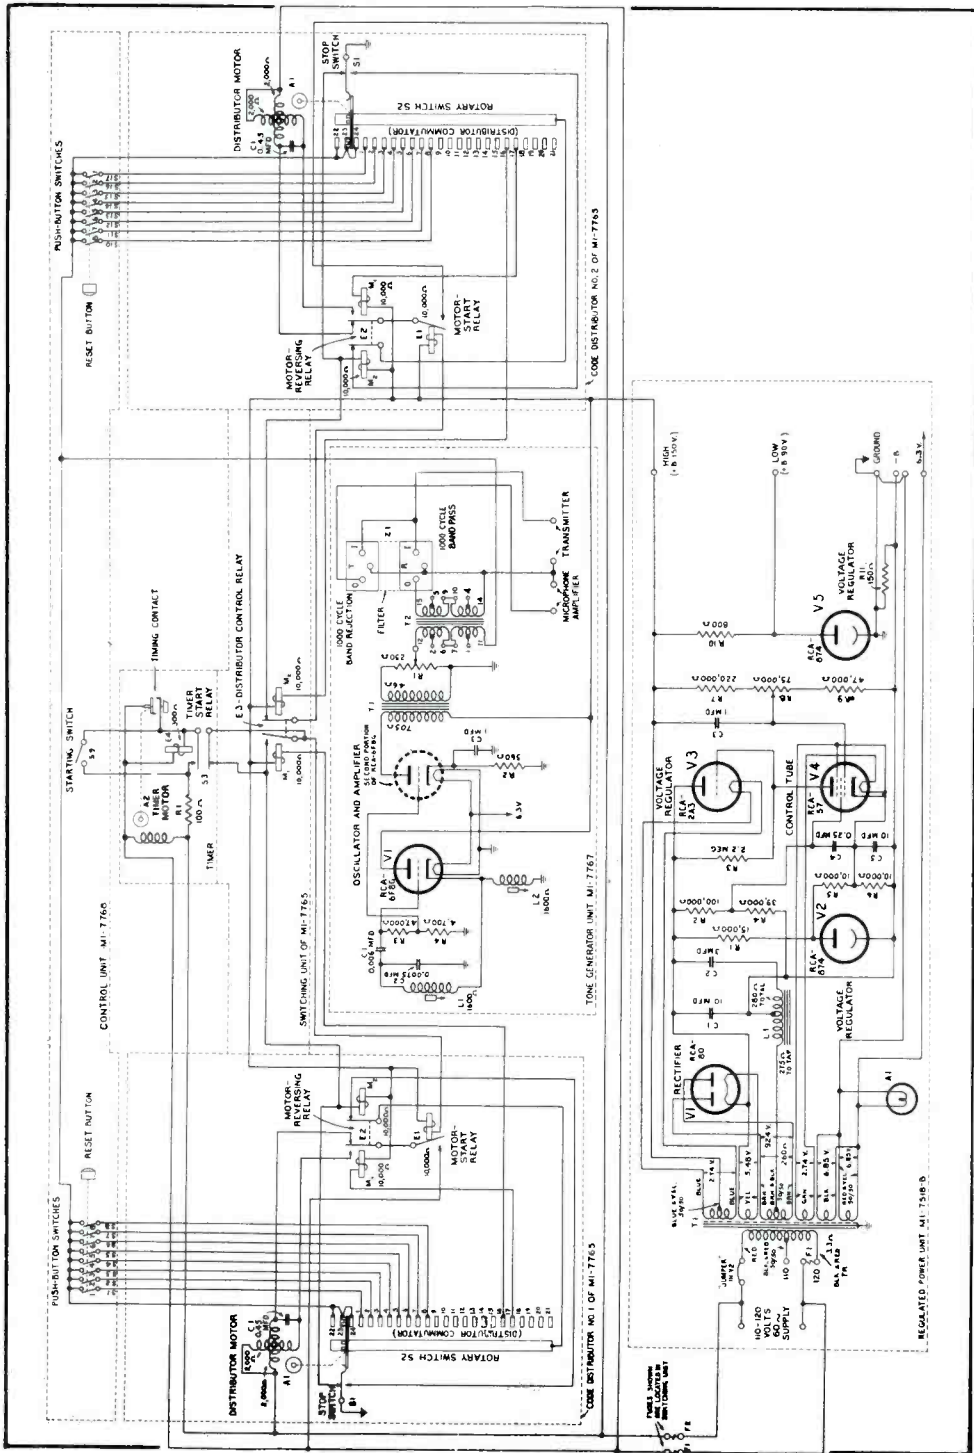

FIG. 3. TRANSMITTER CODING CIRCUIT. DOTTED LINES INDICATE SEPARATE UNITS
The complete circuit arrangement of the power unit is schematically shown in Fig. 3.
Referring to Fig. 3, the voltage-regulating feature consists of an arrangement of four tubes V2, V3, V4, V5 which function as interdependent stages of the system. The general purpose of each of these tubes is as follows:
Assume that the voltage at a particular instant is reduced across the  $-B$  and  $+B$  taps shown in Fig. 3, either because of high load current or low AC line voltage. This would cause a reduced voltage from ground to the arm of the voltage-adjusting potentiometer R8, the arm being connected to the grid of tube V4. Inasmuch as tube V2 maintains a
As this action occurs very rapidly, the effect is a constant voltage output at all times. While only a portion of the DC output is applied to the grid of tube V4, the full ripple voltage is applied through capacitor C3. The regulating action of the circuit also functions on this ripple voltage to cause a further hum reduction beyond that of the filter circuits in the power unit shown in Fig. 3. This results in a DC output almost entirely free from ripple voltage.
**CIRCUIT OPERATION:** Referring to Fig. 3, let it be assumed that the power is on, and that the power unit is energized. With the power on, the timer motor A2 is in operation. Also, all the relays of the equipment are in their normal positions except the motor-start relays E1 of both code distributors which, as shown, are in their respective operating positions. With the power unit energized, the heater of the tube V1 of the tone generator unit is on. This places the tone generator in condition for operation.
As the brush of code distributor No. 1 passes over segments 23 and 24, a 1,000-cycle tone signal is received at the decoder (see Figs. 3 and 6). This tone signal causes the signal-impulse relays E1, E2 to operate thereby causing the release of battery-control relay E5 which results in starting of the vibrators E8, E9 and the motor A1, as described above. The switch S1 starts and continues to rotate in synchronism with the code distributor at the transmitter due to the fact that the motor A1 is of a synchronous type and is driven by the constant-frequency vibrator E8. As the brush of the code distributor leaves segment